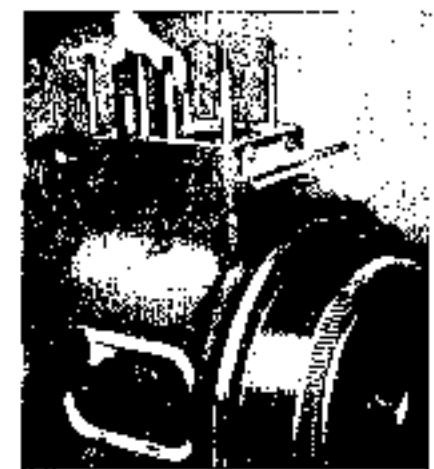

Fig. 25.
5. Pull upwards the connecting rods complete with the other half of the big end bearing shell and the pistons (see Fig. 25).